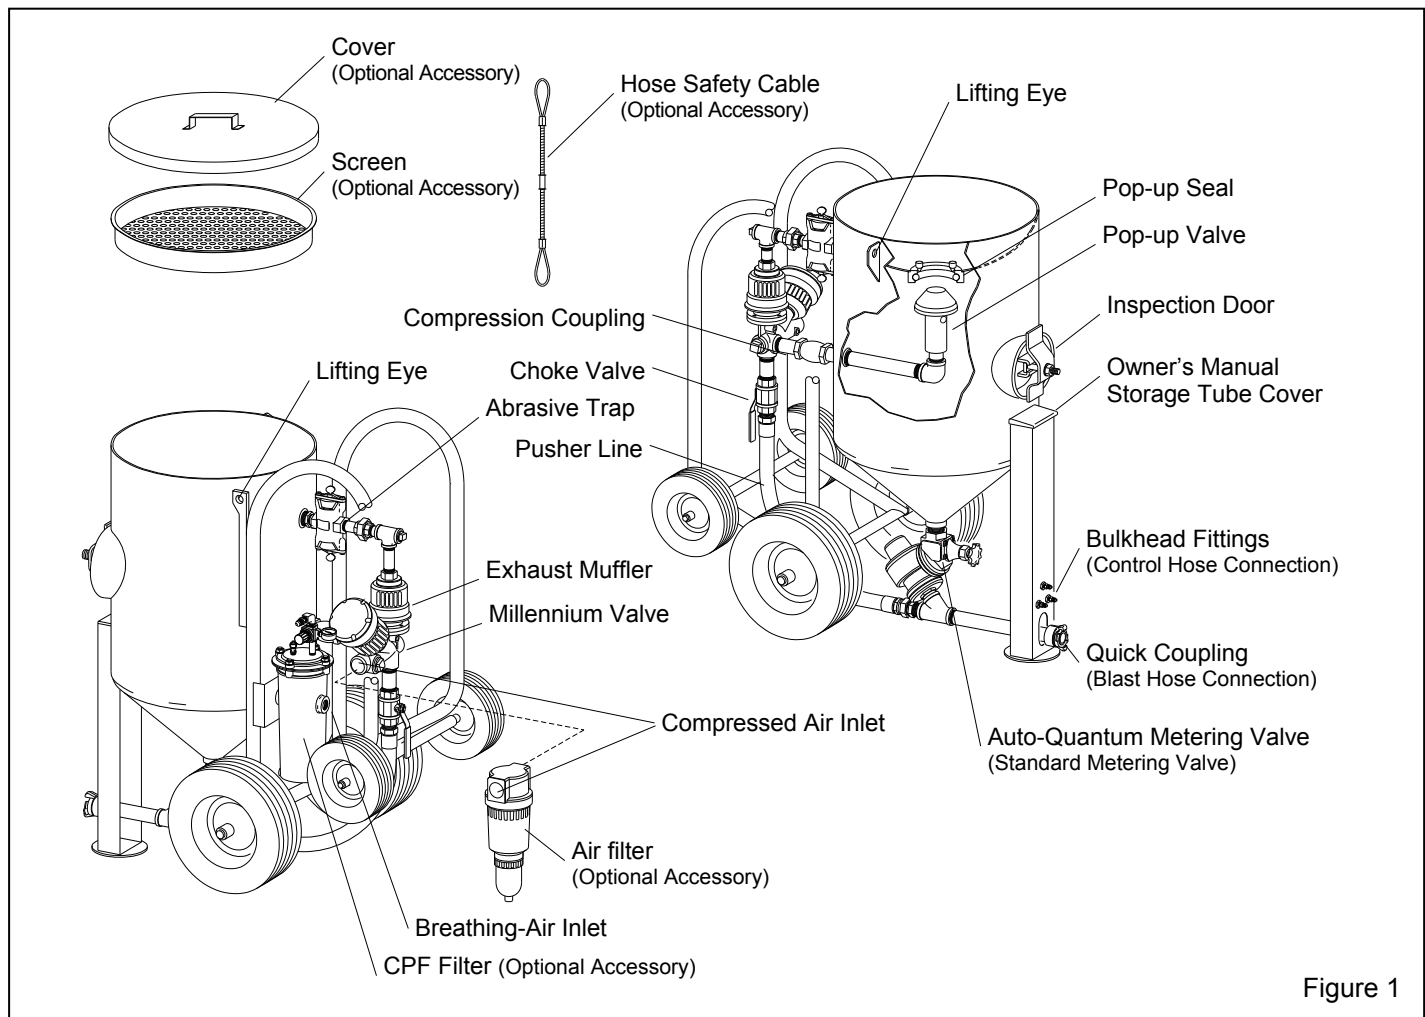

Figure 1
1.3.1.1 The primary components of the Contractor machines are shown in Figure 1. They include the blast machine with Millennium remote controls, pneumatically-operated Auto-Quantum abrasive metering valve, frame assembly, and optional air filters.